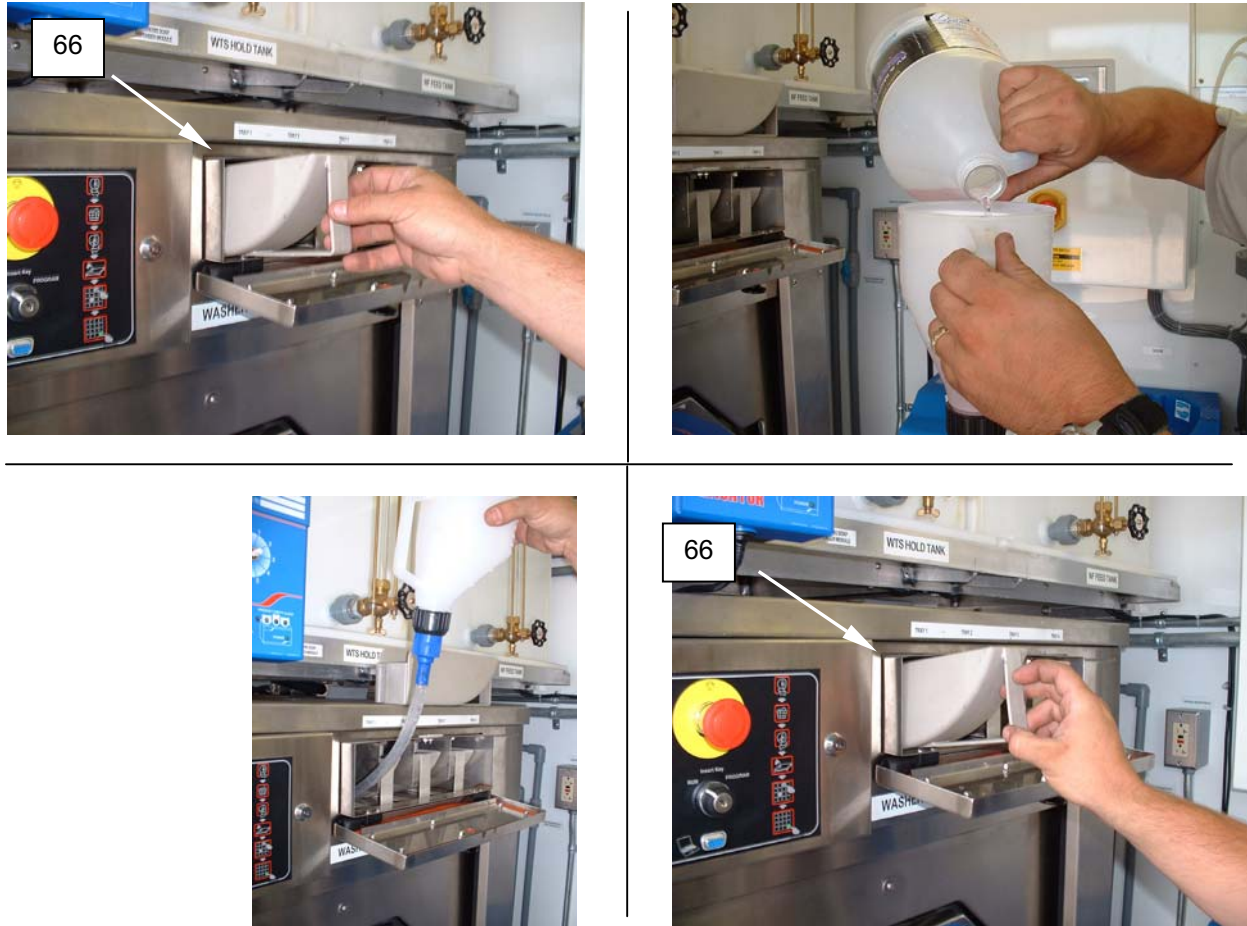

Figure 33. Add Antifreeze - Washer No. 2.
1. Remove tray No. 1 (Figure 33, Item 66).
3. Install tray No. 1 (Figure 33, Item 66).